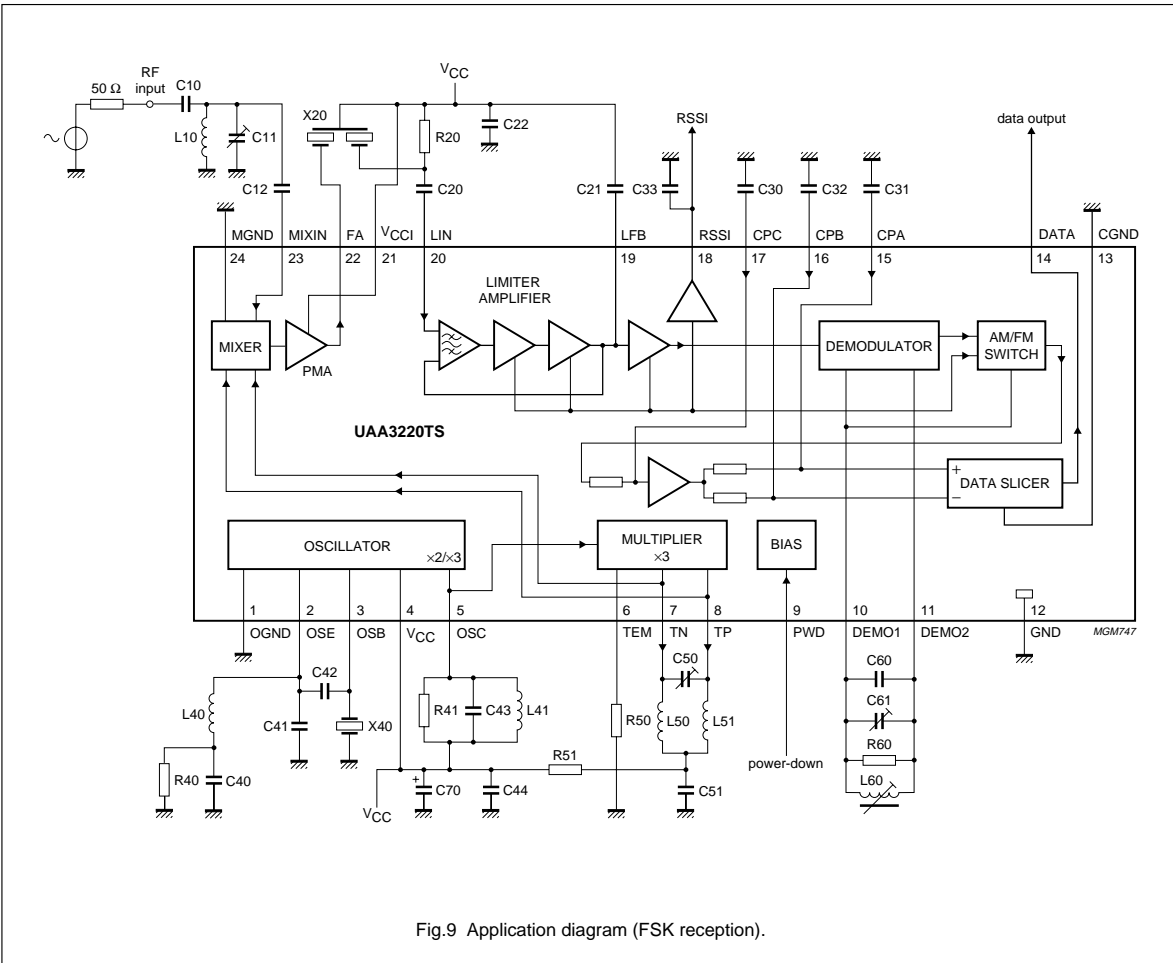

Fig.9 Application diagram (FSK reception).
- The data frequency range can be varied by changing C30 to C32 (see Figs 9 and 10) to match other bit rates. Data frequency determined by data slicer application.
**Table 4** Component list for Figs 9 and 10;  $f_{i(RF)} = 433.92$  MHz
**Table 5** Component list for Figs 9 and 10;  $f_{i(RF)} = 868.35$  MHz